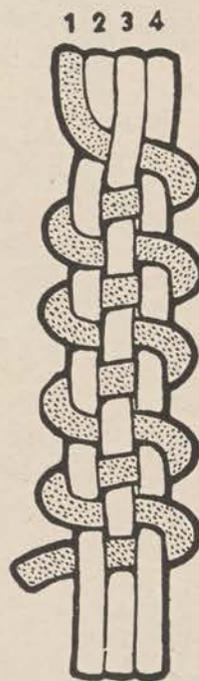

Figure 148.
*d.* Still another variation is achieved by weaving one of the outer strands back and forth across the whole width of the braid while the other strands remain stationary (fig. 148). This is particularly effective if the working strand is different in color from the others.